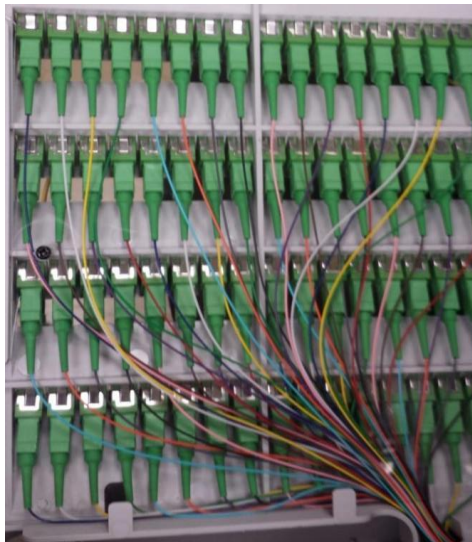

Fig. 30 Fibers protected by a clear protection sheet
3.8.3. Accommodate the fibers along the way and attach a transparent protection sheet into position with the screws provided. (Figs.30 and 31)